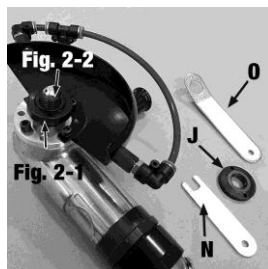

Fig. 2
3. Place a wet diamond cutting blade (not provided) onto the bottom flange (Fig. 2-1) and make sure the blade is set in place (Fig. 2).